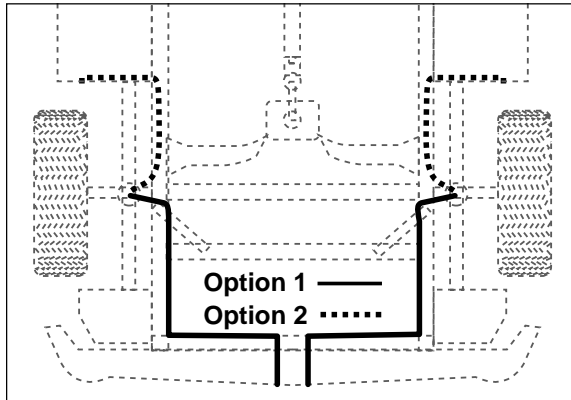

Figure 7
- Route the air line along the frame to the air fitting on the air spring (Figure 7). Keep at least 6" of clearance between the air line and heat sources, such as the exhaust pipes, muffler, or catalytic converter. Avoid sharp bends and edges. Use the plastic tie straps (BB) to secure the air line to fixed, non-moving points along the chassis. Be sure that the tie straps are tight, but do not pinch the air line. Where there are no holes to secure straps to, use the hose clips (HH) and the self tapping screw (II) to secure air line to frame. Leave at least 2" of slack to allow for any movement that might pull on the air line.
- On the exhaust side only, place the provided thermal sleeve (P) on the air line near the exhaust.